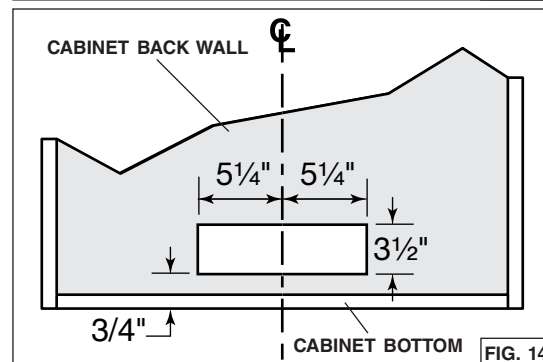

FIG. 14
9. Cut the hole for the horizontal exhaust through the back wall of the cabinet using the dimensions shown. (FIG. 14).